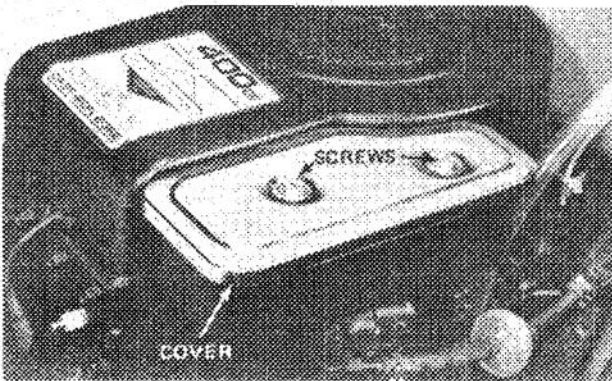

Figure 22
2. Remove air cleaner stud, screw and cover. Replace cover gasket if damaged (Fig 22).